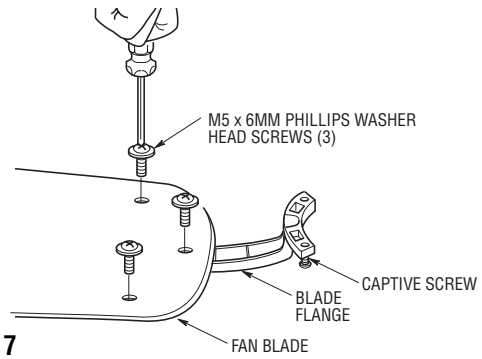

Figure 7
- 2. Mount the blade flanges to the fan blades using three M5 x 6mm Phillips washer head screws per blade (supplied) (Figure 7). Repeat for four remaining blades.